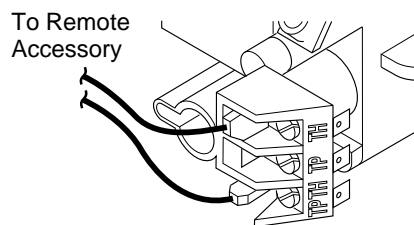

Figure 23- Control Valve Terminals
3. Run the wires from the wall thermostat through the rectangular cut-out in the back of the heater base. Connect one terminal of the wire for the wall thermostat to the THTP terminal on the valve. Connect remaining wire terminal to the TH terminal on the valve. Make sure that the wire terminals are in the positions on the unit as pictured in Figure 23. If wires are not connected as shown the thermostat will not work.